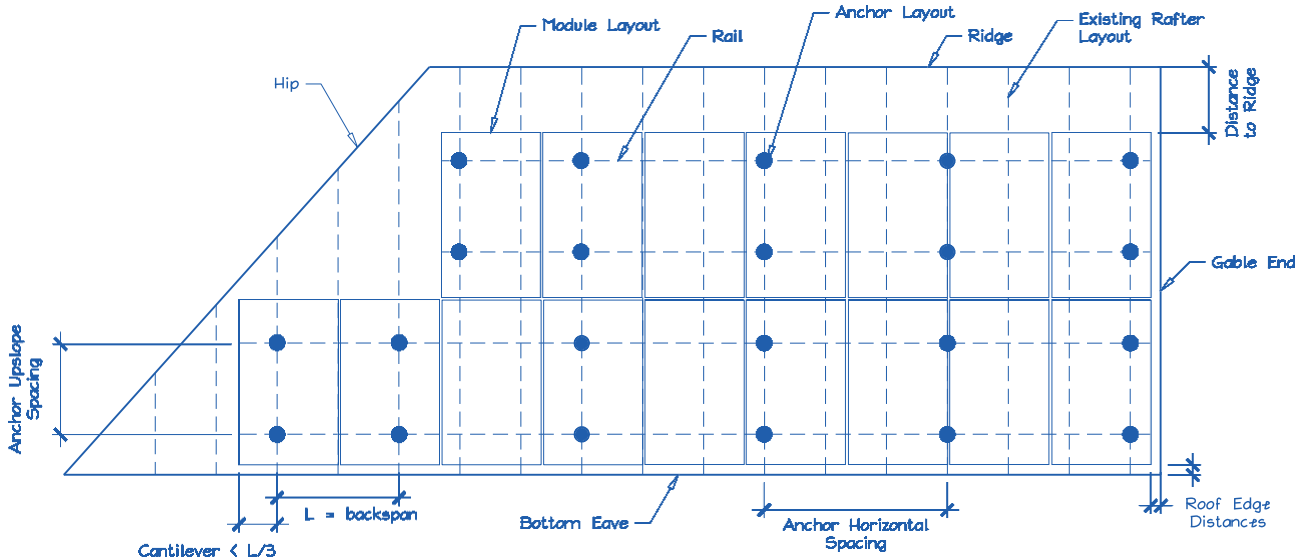

Figure 2. Sample Solar Panel Array and Anchor Layout Diagram (Roof Plan).
E. Is a roof plan of the module and anchor layout attached? (see Figure 2)
- 1) Proposed anchor horizontal spacing (see Figure 2): _____' - _____' ft-in
1. Anchors are also known as "stand-offs", "feet", "mounts" or "points of attachment". Horizontal anchor spacing is also known as "cross-slope" or "east-west" anchor spacing (see Figure 2).